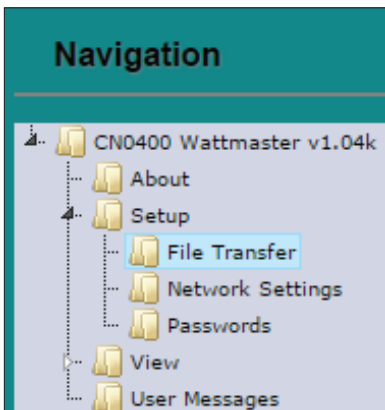

Figure 14: Navigation Window - File Transfer
4. In the *Navigation Window* on the left of the *FS-GUI Screen*, *click* **<Setup>** and then *click* **<File Transfer>**. See **Figure 14**.